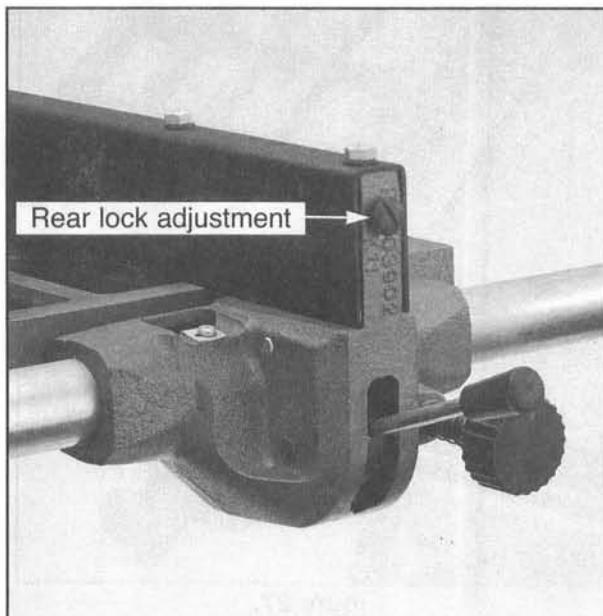

Figure 26.
3. Loosen the rear lock adjustment (the slotted screw on the front of the fence) until the rear locking lever ceases to engage the rear rail with the fence in the locked position. **Figure 26.**